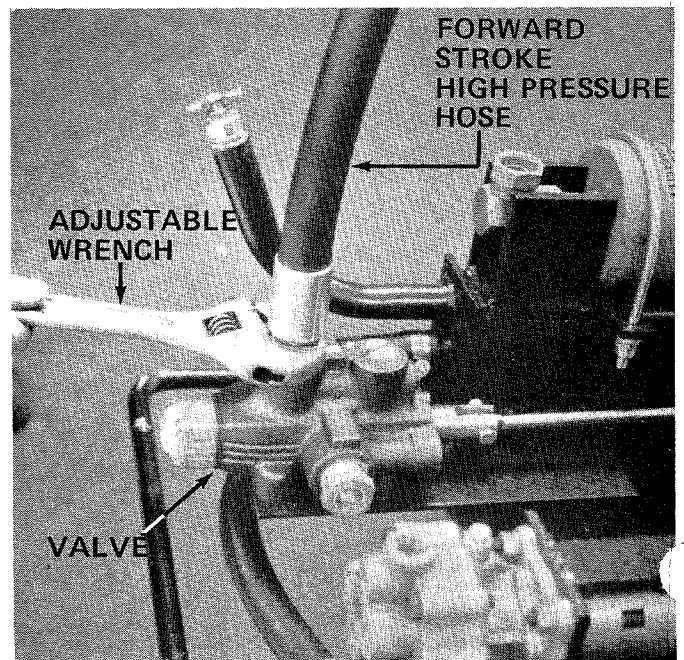

FIGURE 10
- Assemble the forward stroke high pressure hose to the valve. An adjustable wrench is required. See figure 10.